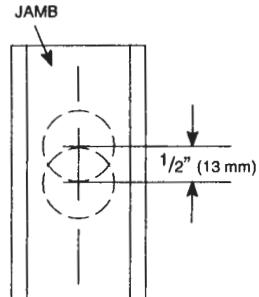

Figure 9-1
- B. See Figure 9-1. Drill two (2) 1" (25 mm) holes 1" (25 mm) deep in jamb.